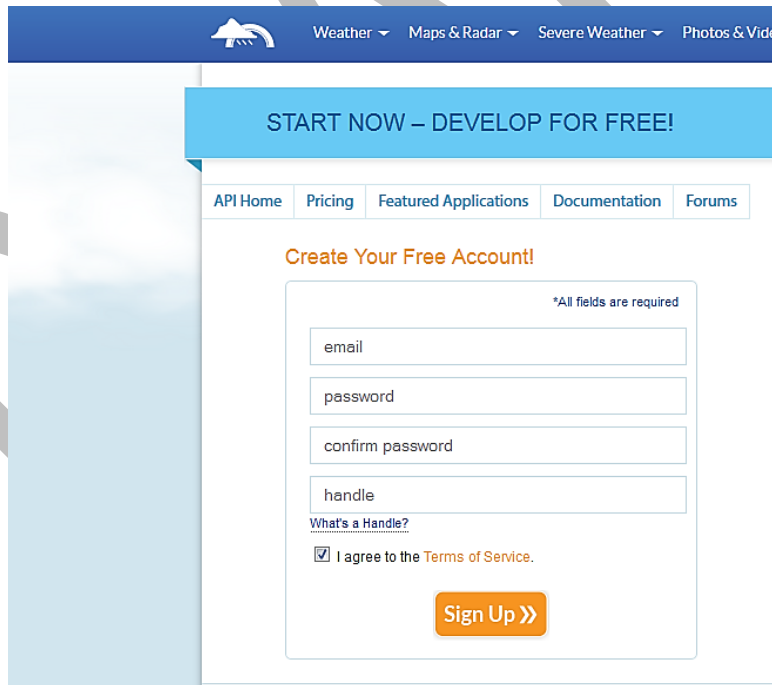

Figure 19: Setting up a Developer Account
- The window should now look similar to Figure 19. Enter your information to create an account.